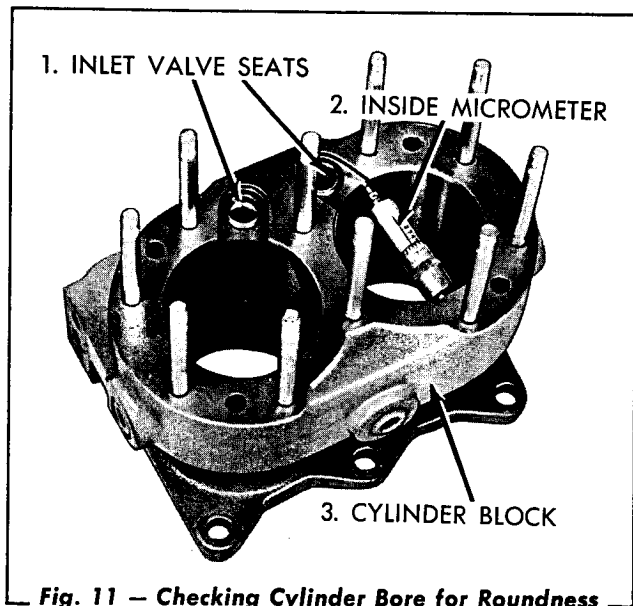

Fig. 11 - Checking Cylinder Bore for Roundness
2. Check the cylinder bores for roundness. Use an inside micrometer similar to the one shown in Fig. 11. Measure the bores for taper and wear. Each should be round within .002". There should be no more than .003" taper. Rebore a cylinder that is more